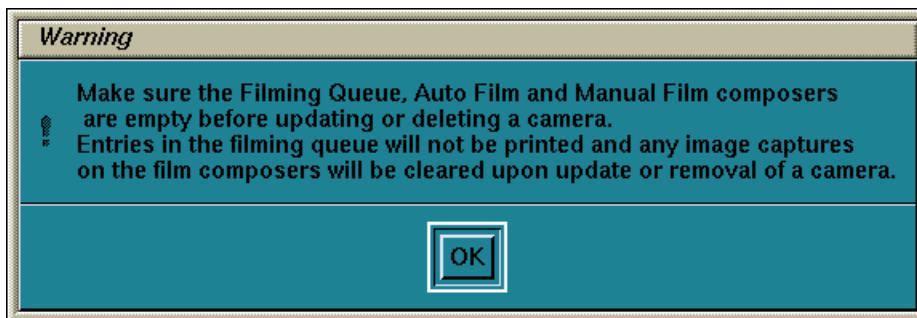
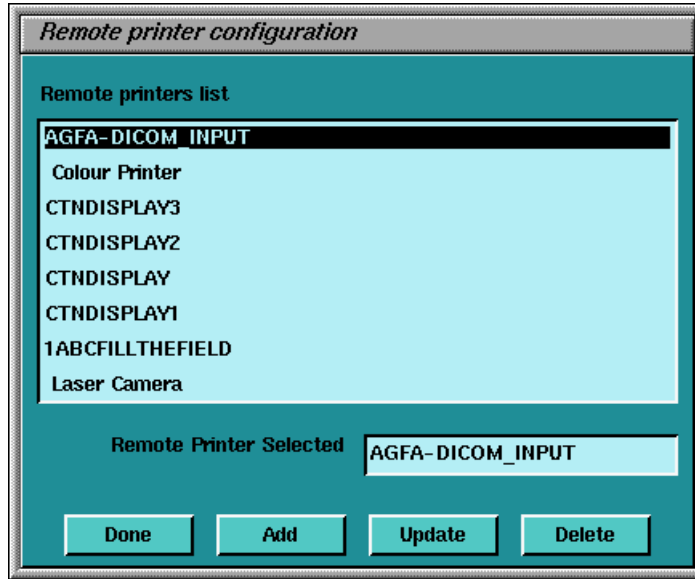

Figure 5-1 Warning Screen
Figure 5-2 Printer Configuration GUI
- 3.) The Graphical User Interface displayed shows a list of cameras installed (See Figure 5-2). First, you must click OK in the warning message box. See Figure 5-1.
- a.) To add a new camera, click the ADD button (See Figure 5-2).